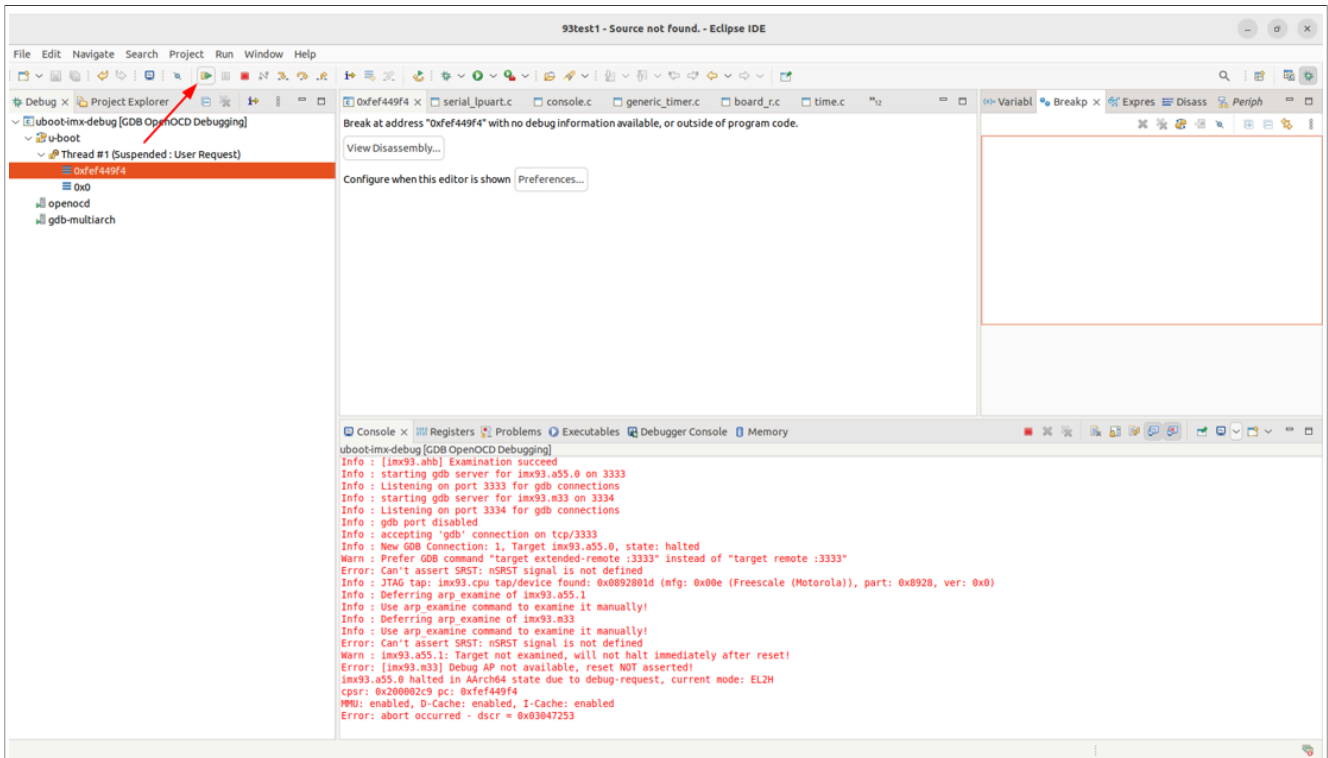

Figure 15. Resume
- In case of a similar situation, press the **Resume** button as shown in Figure 15